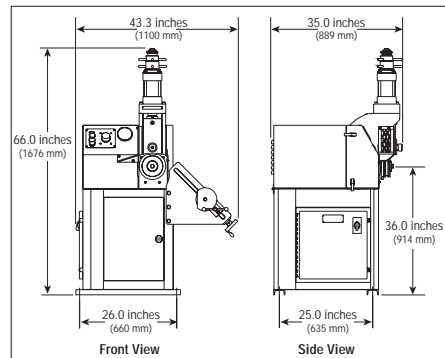
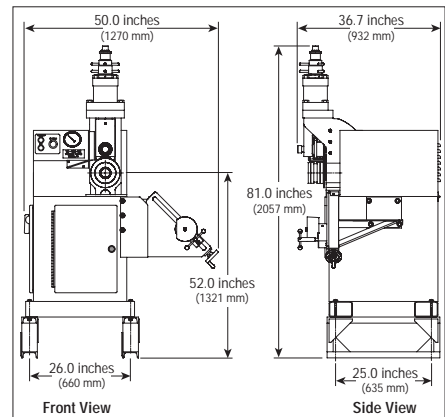

Figure 1 - VE424MC and VE436MC Tool Mounting Pattern
Figure 2 - VE436MC and VE424MC with 26 - 36-inch Kit Tool Mounting Pattern
2. The VE424MC and VE436MC tools are designed for use in a permanent location and must be located on a level concrete floor or base. After an appropriate location is chosen, the tool must be level and securely anchored (refer to Figure 1 on this page). A non-level tool can severely affect grooving operation. When checking tool level, place the level directly on the frame of the tool, as shown above.
- 3e. Adequate clearance around the tool and stabilizer assembly for adjustment and maintenance (refer to Figure 1 or Figure 2 on this page)